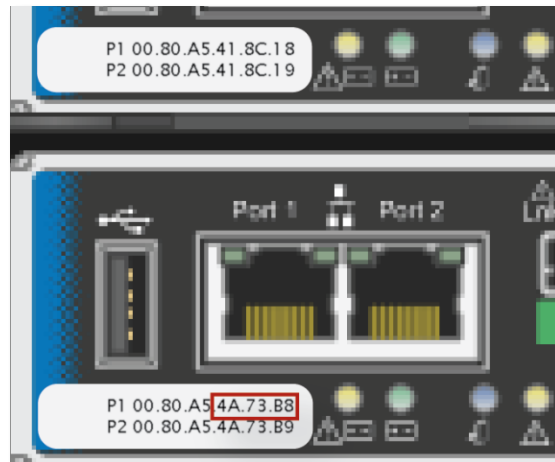

Figure 34: Six Digits That Match the WWN of the Array
6.4.15. `Unnamed` is the default name of an unconfigured storage array, and its default state is `Needs Attention`. The `WWN` is a 32-digit hexadecimal identifier for the storage array that contains the digits from one of the stickers on the back of the array, as shown in Figure 34.